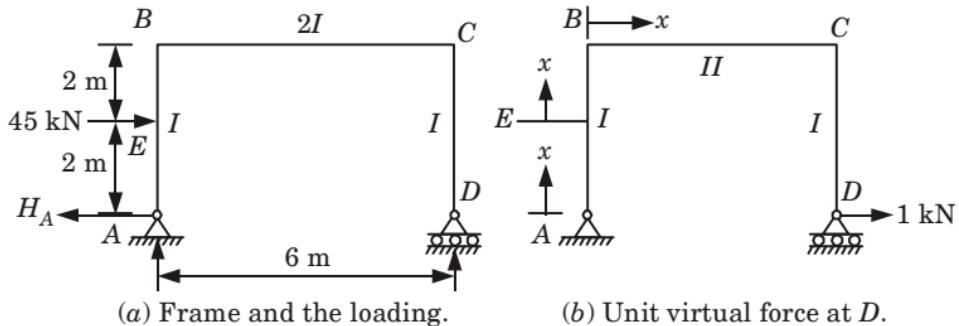

Fig. 31.
2. The unit force (1 kN) is applied at support D in the direction of the desired displacement Fig. 31(b). The origin and the positive direction of  $x$  for each section is indicated in Fig. 31(b).